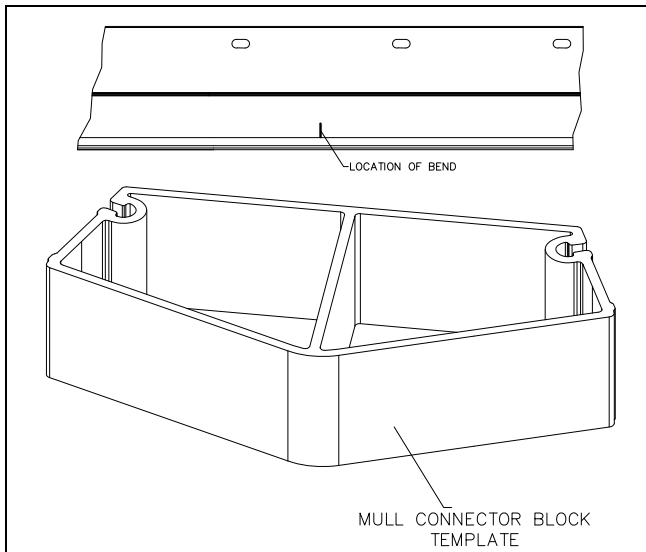

Figure 11
2. Place the marked nailing fin/drip cap on a flat surface. A short section of mull connector block is used as a template to mark the cutting angles so a notch can be removed from the beige drip cap/nailing fin, this will allow the drip cap to bend around the mulls while leaving the clear vinyl (visible edge) continuous and intact. See Figure 11.